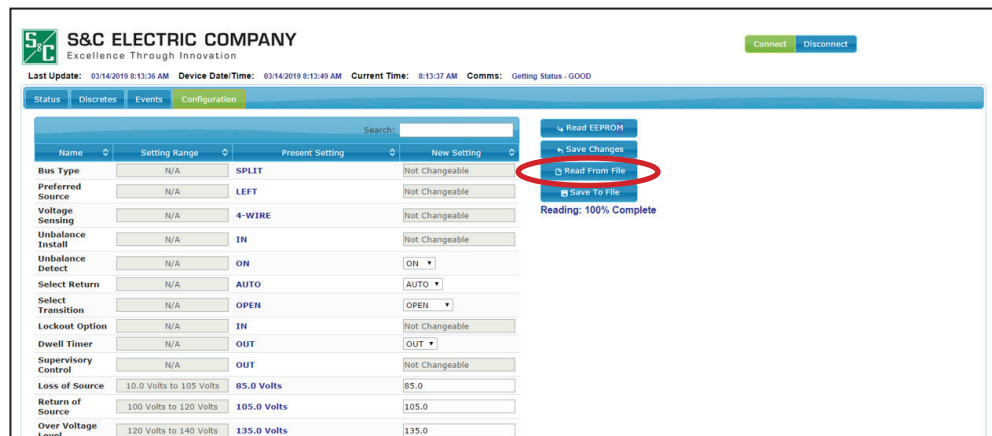

Figure 22. The Read From File button.
STEP 1. Click on the **Read From File** button to choose a file to read. See Figure 22.